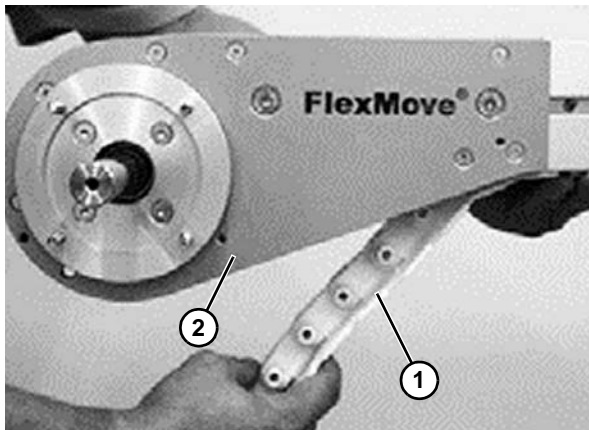
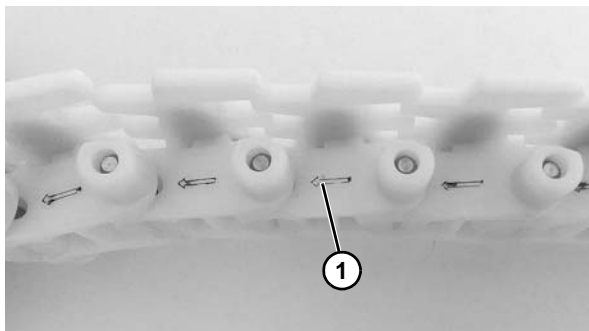

Figure 49
Figure 50
1. Insert the chain (**Figure 49, item 1**) into the underside of the drive unit (**Figure 49, item 2**). Make sure the chain will be moving in the correct direction, as indicated by the arrow (**Figure 50, item 1**) located at the side of all chain links.